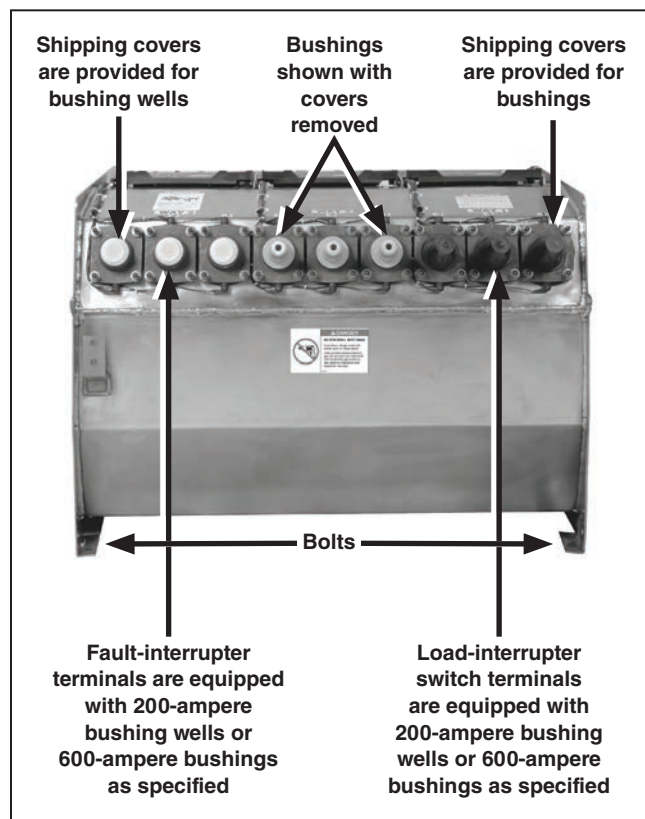

Figure 23. A Vista switchgear tank showing appropriate shipping covers.
- STEP 1.** Remove the shipping covers from the bushings and bushing wells. See Figure 23 on page 18.
- STEP 2.** Terminate the cables with the elbows, following the elbow manufacturer's instructions. See Figure 23 on page 18.